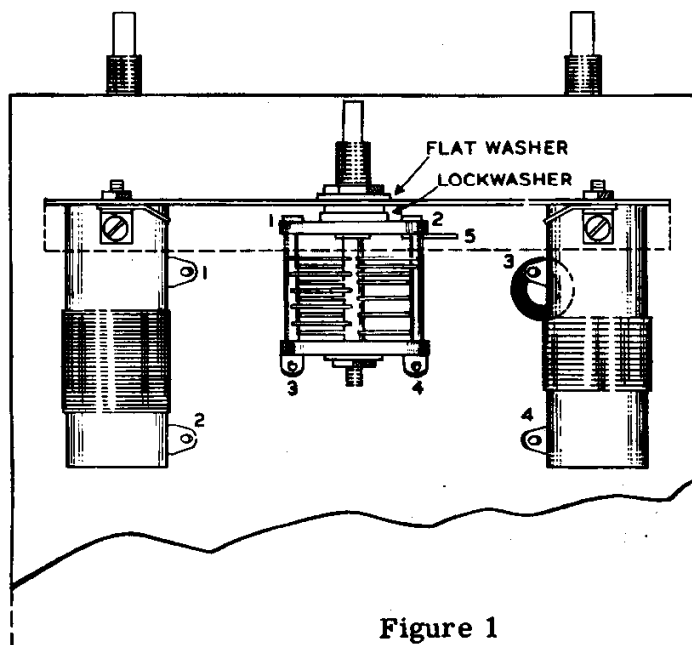
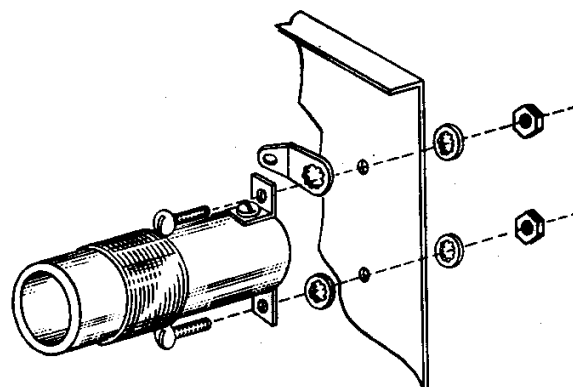

Figure 1
Figure 2
- X (✓) Mount the differential tuning capacitor to the front plate of the sub-chassis as shown in Figure 1 and Pictorial 1. Use a 3/8" lockwasher on the rear of the sub-chassis and a flat washer and 3/8 nut on the front. Position the capacitor so that the stator sections appear as shown in Figure 1 and the capacitor terminal lugs appear as shown in Pictorial 1.
- X (✓) Mount the 40 meter ceramic coil (one having the least number of turns) on the sub-chassis on the side of the capacitor having only two stator plates, as shown in Figure 1. Use assembly method shown in Figure 2. The coil terminals should be toward the capacitor. The position of this coil will hereafter be referred to as the right side as viewed from the rear. Use care in mounting the coils to prevent damage to the ceramic form.